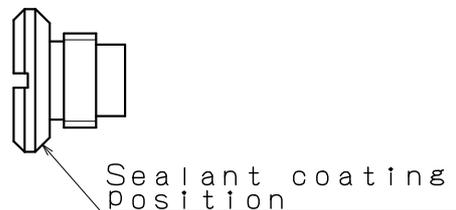

Fig.19
- ③ Degrease Lock screw(21) and its setting position on Casing(1) using solvent.
- ④ Apply sealant to the bearing surface of Lock screw(21) and tighten it with a torque of 20~25 N·m {2.0~2.5 kgf·m} . (See Fig. 19) Use Loctite 510 or equivalents as sealant.